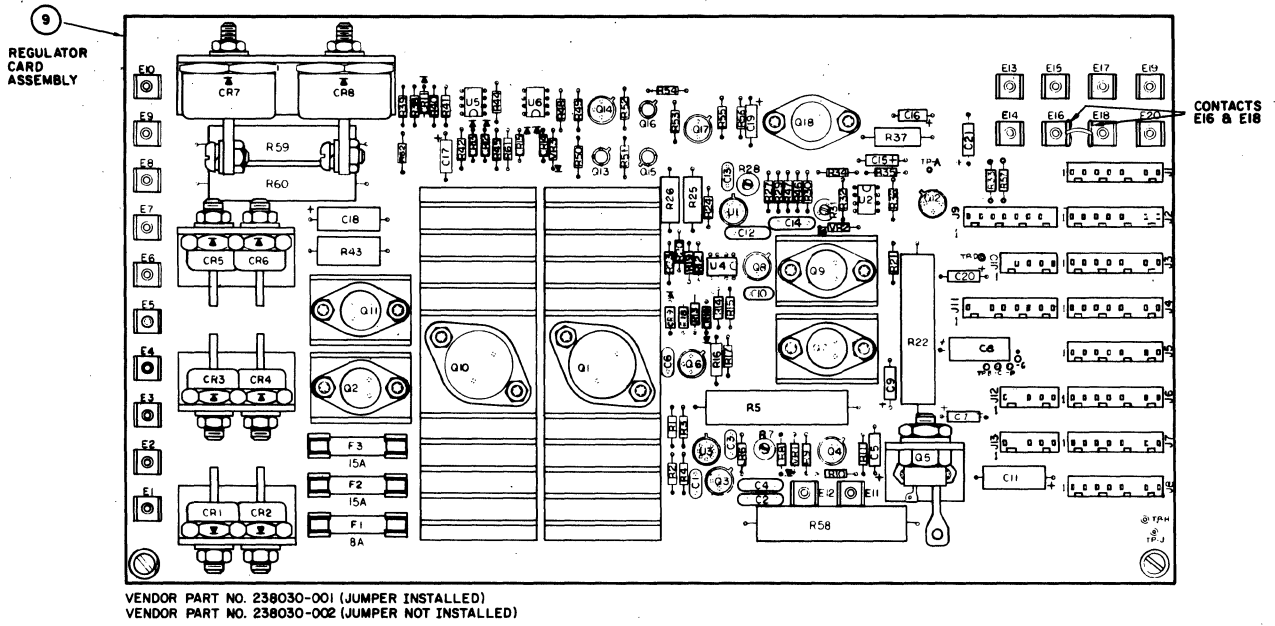

Figure 2-4 PRU9103/PRU9104 Line Printer Regulator Card
The 9103/9104 printers use a single regulator card (see Figure 2-4) that requires grounding of its internal (dc) logic ground with its internal ac ground for proper printer operation in a Level 6 system environment. This feature is enabled on the regulator card with a jumper wire placed across card terminals E16 and E18; the feature is disabled when this jumper is removed. The regular card can be obtained with the feature installed via vendor part number 238030-001, or without the feature via vendor part number 238030-002. The following procedure provides the steps to determine whether the feature is enabled (card 001) or not (card 002); the steps to install a jumper wire to enable the feature on the card are also included.
13. The 238030-002 regulator card (item 9 in Figure 2-4) is exposed directly below regulator card cover.